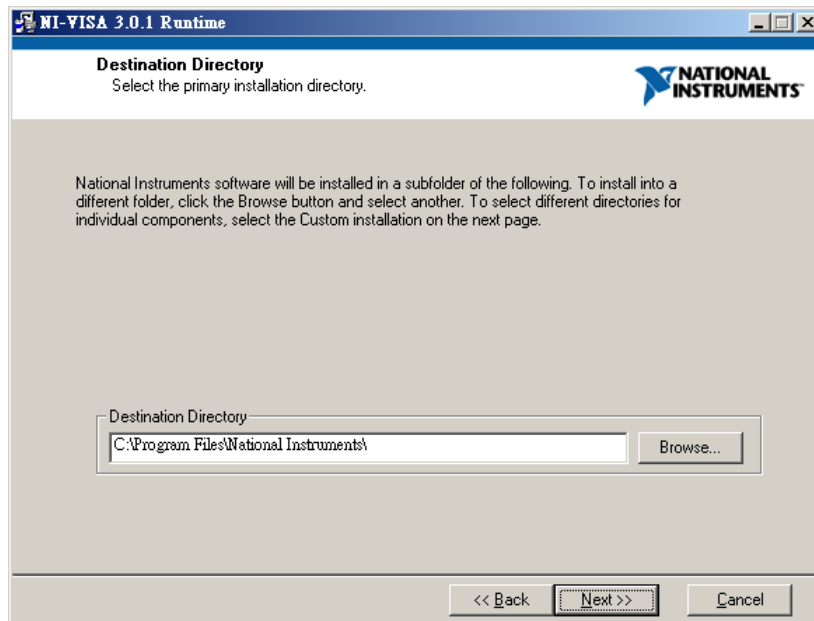

Figure 2-11 Selecting NI VISA Installation Path
- The window shows the installation path for NI VISA. The program is default installed in C:\Program Files\National Instruments as Figure 2-11 shows. To change it, click **Browse** and specify the path for installation. Click **Next** to proceed.